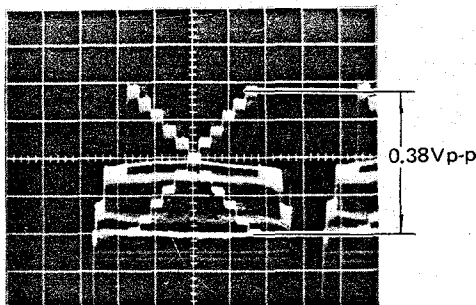

Fig. 6-4-20
- Adjust Y_H GAMMA VR303 until the signal level from the white to black chip of the gray scale chart is 0.38Vp-p. (Fig. 6-4-20)